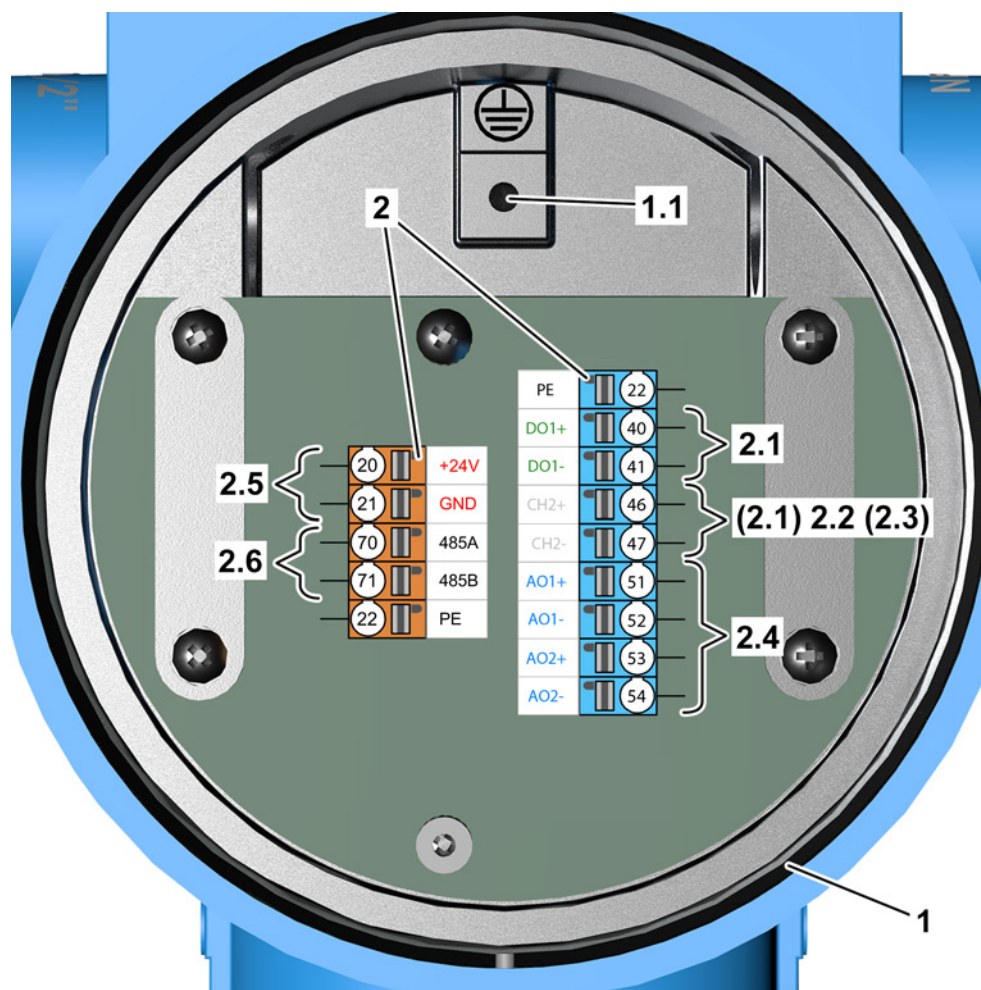

Fig. 8: Wiring diagram for RHE42-R* Coriolis transmitter (intrinsically safe)
- ➔ Figure 8: Wiring diagram for the RHE42-R* \(intrinsically safe\)